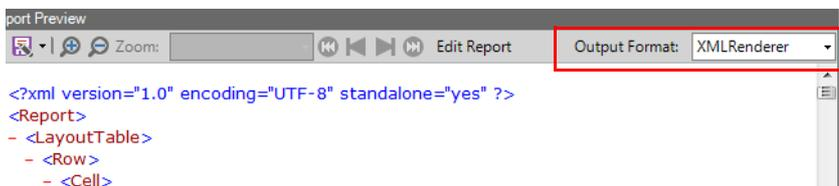

Figure 8-14. Formatting a Report with an XML renderer
2. From the **Report Preview** toolbar, expand the **Output Format** button to display the menu items. Select **XML Renderer**, see Figure 8-14.